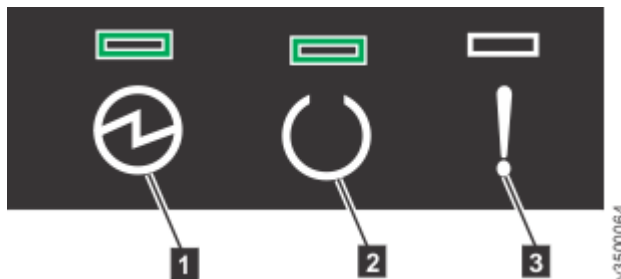

Figure 40. Expansion enclosure LEDs
2. From the rear of the rack, check the LEDs on each expansion enclosure (see Figure 40 on page 73).